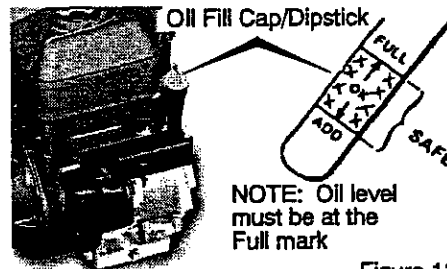

Figure 13
5. If necessary, add oil until the oil reaches the **FULL** mark on the oil fill cap/dipstick (see Figure 13). Do not add too much oil.